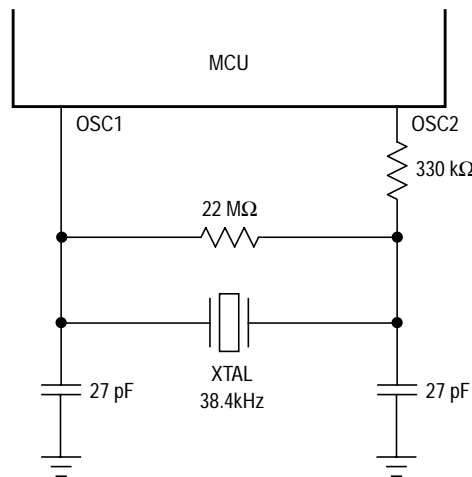

Figure 1-3. Crystal Connections
The OSC1 and OSC2 pins are the crystal connections for the on-chip oscillator. **Figure 1-3** shows a typical crystal oscillator circuit for a parallel resonant crystal. Follow the crystal supplier's recommendations, as the crystal parameters determine the external component values required to provide reliable startup and maximum stability. The load capacitance values used in the oscillator circuit design should include all stray layout capacitances. To minimize output distortion and radio frequency (RF) emissions, mount the crystal and capacitors as close as possible to the pins. Pay special attention to minimizing the length of the oscillator load capacitors' ground return path.